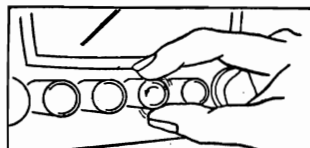

FIG. 2 Loosen button by rotating counter-clockwise from 1/4 to 1/2 turn.
1. Loosen the push-button to be adjusted by rotating it counter-clockwise from 1/4 to 1/2 turn. See Fig. 2.